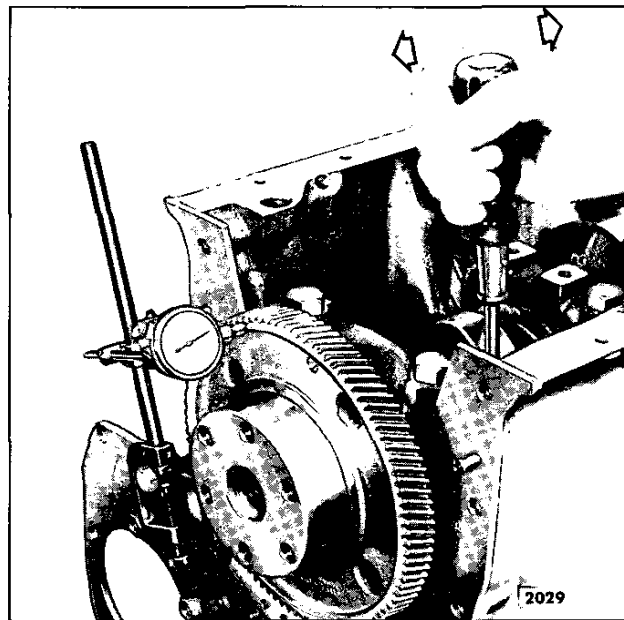

Fig. 11 – Checking Crankshaft End Play
7. Check the crankshaft end play by moving the crankshaft toward the gage (Fig. 11) with a small (less than 12") pry bar. Keep a constant pressure on the pry bar and set the dial indicator to zero. Then, remove and insert the pry bar on the other side of the bearing cap. Force the crankshaft in the opposite direction and note the amount of end play on the dial. The end play should be .004" to .016" with new parts or a maximum of .018" with used parts. Insufficient end play can be the result of a misaligned rear main bearing or a burr or dirt on the inner face of one or more of the thrust washers.